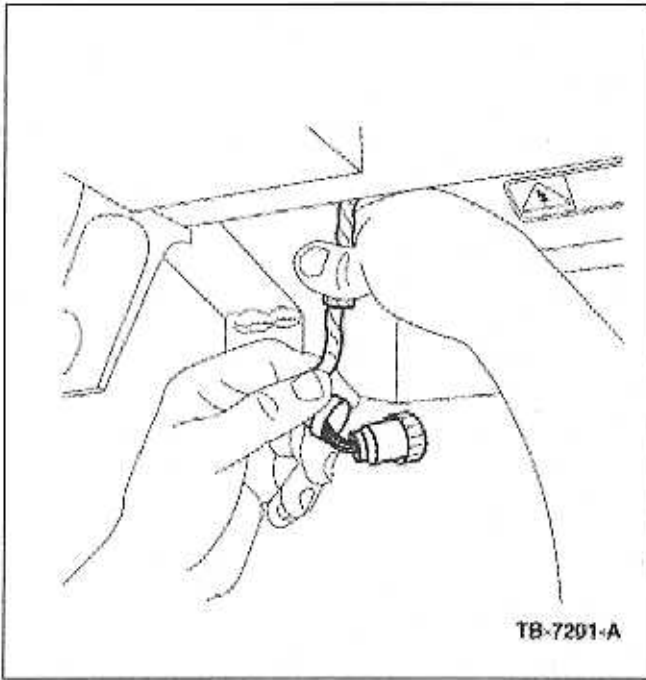

Figure 2 - Article 03-12-1
2. Separate the back shell from housing as shown in Figure 2. A description of the various parts of the DC connector is shown in Figure 3.